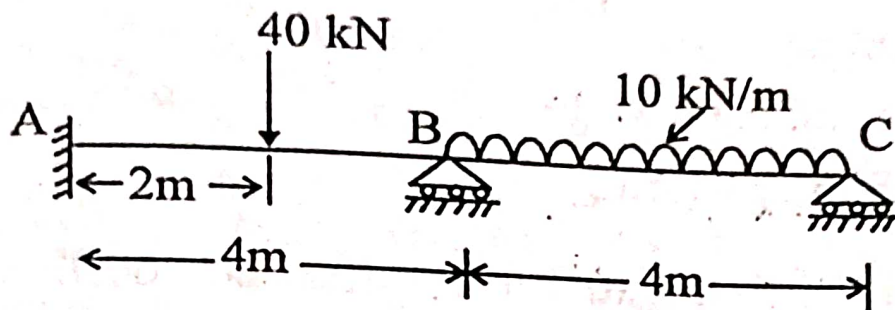

Fig. 3.
3. Analyse the continuous beam given below in Fig. 3. using flexibility method.